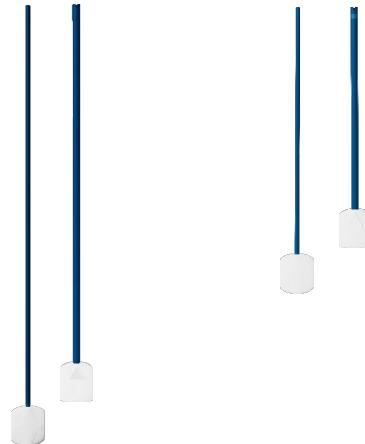

Figure 2. Insertion Tool - Advancer and Sheath (male-left; female-right)
- The Insertion Tool (Figure 2) is used to insert the Sensor in the patient's bladder.